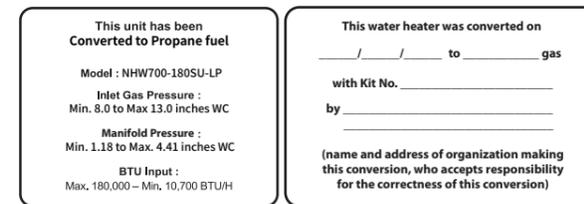

Figure 11. Proper Placement of Gas Conversion Labels
12. Once the manifold pressure values have been confirmed and the gas conversion has been properly completed based on the provided instructions, apply the included conversion stickers to show that the appliance has been converted to natural gas or propane gas. Complete the label and place it adjacent to the rating plate as shown in Figure 11.